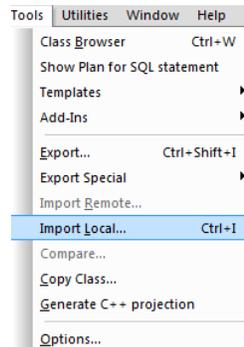

Figure 3-8: **Central Ensemble Production Tools** menu
3. Select **Import Local** from the **Tools** menu as shown in Figure 3-8.